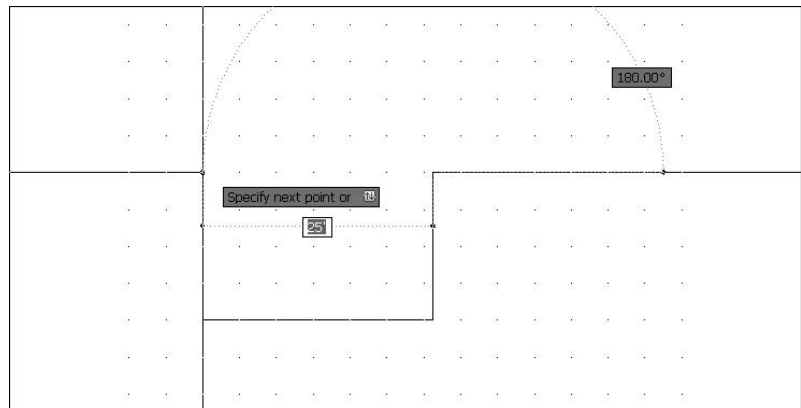

FIGURE 3.11: Drawing the second and third wall lines
6. Move the crosshair cursor directly left of the last point picked until the ghosted linear dimension displays 25' and the ghosted angular dimension displays 180.00°, and pick that point (see Figure 3.11).